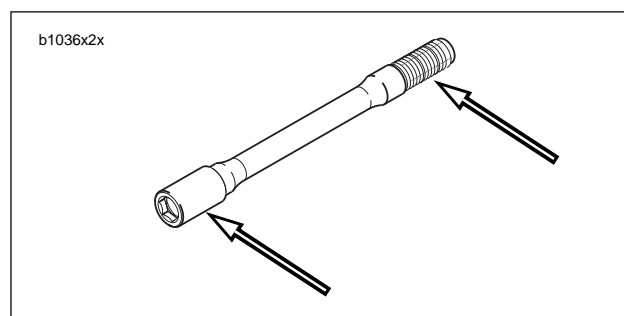

Figure 2-22. Anti-Seize Lubricant Location
- b. See Figure 2-22. Coat the axle with ANTI-SIEZE LUBRICANT.